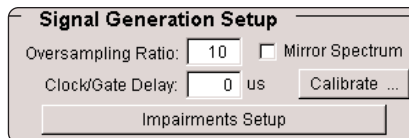

Figure 33. Signal Generation Setup menu.
- Use the Calibrate utility to determine the signal propagation delay through the ESA. Select the Calibrate button in Figure 33. The calculated waveform is automatically downloaded to the ESG and the calibration utility is initiated.